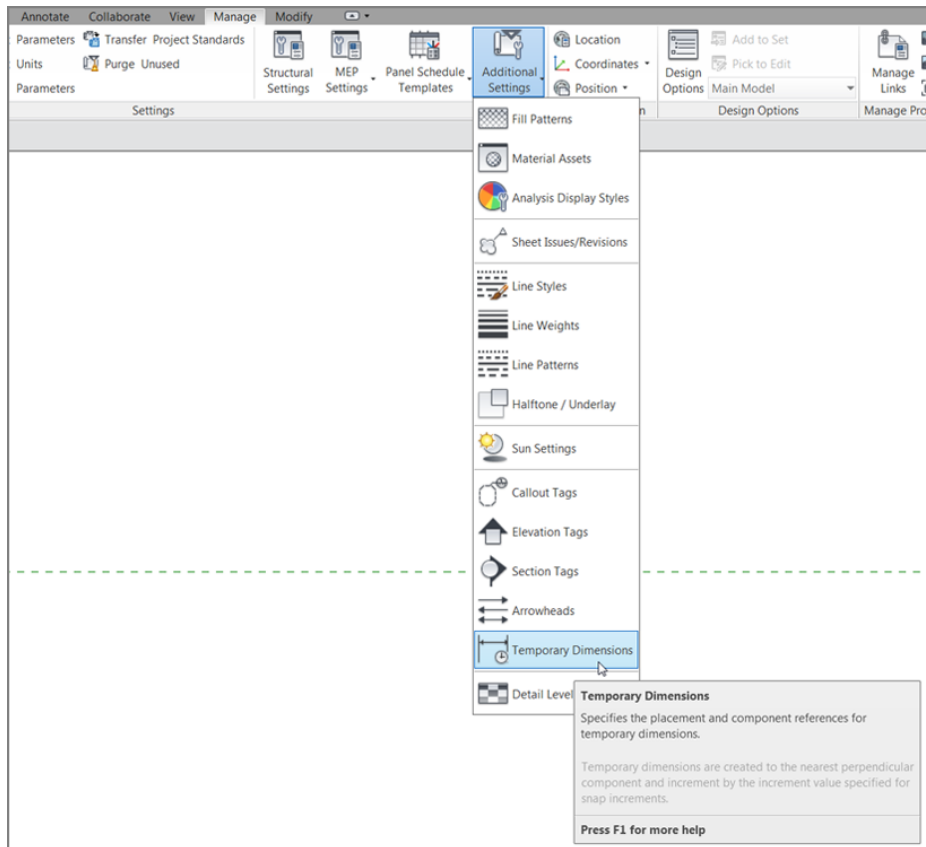

FIGURE 2.25: The Temporary Dimensions function lets you control where Revit measures the temporary dimensions.
1. On the Manage tab, click Additional Settings > Temporary Dimensions, as shown in Figure 2.25.